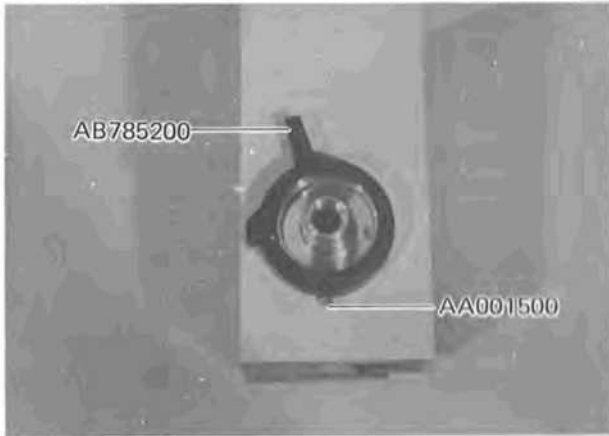

Fig. 4-18
- 4-2-7 Assemble Lock Knob AA785200 in position. For this purpose, apply a thin coat of Grease OT2006 to the thread and turn the Lock Knob clockwise as far as it will go. (See Fig. 4-18.)
- 4-2-8 Assemble Stopper AA001500 in position. (See Fig. 4-18.)